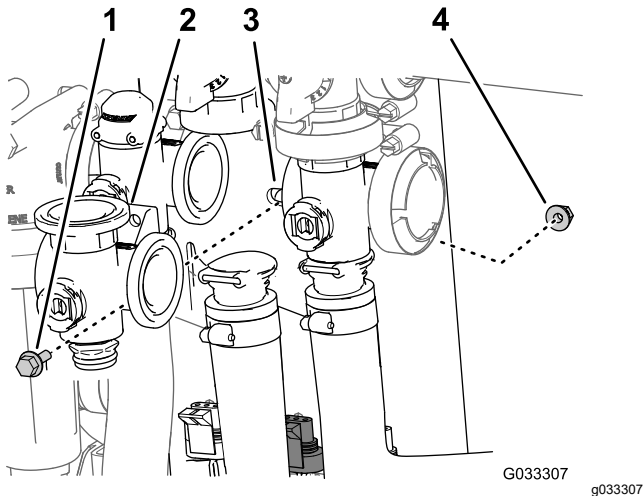

Figure 71
- Remove the flanged-head bolt and flanged locknut that secures the agitation valve to the valve mount and remove the valve manifold from the machine (Figure 71).